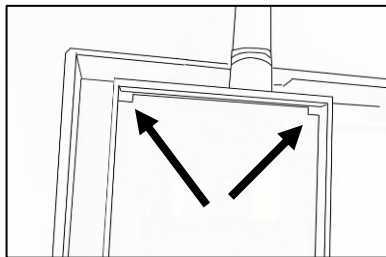

Figure 4
4. Insert the module by angling it down and placing the antenna connector in the round opening. **IMPORTANT:** Make sure to angle the top of the module downward when inserting the antenna connector into the opening, so the module is below the two small, plastic corner tabs in the top of the module compartment (seen in *Figure 4*).
5. Screw the antenna onto the module. Make sure the antenna is screwed in completely (a little over 2 turns), but do not force it. The module must be seated correctly beneath the two small, plastic corner tabs (see *Figure 4*) for the antenna to thread freely through the round opening. If the module is above either corner tab, the module and the antenna will not fit correctly.